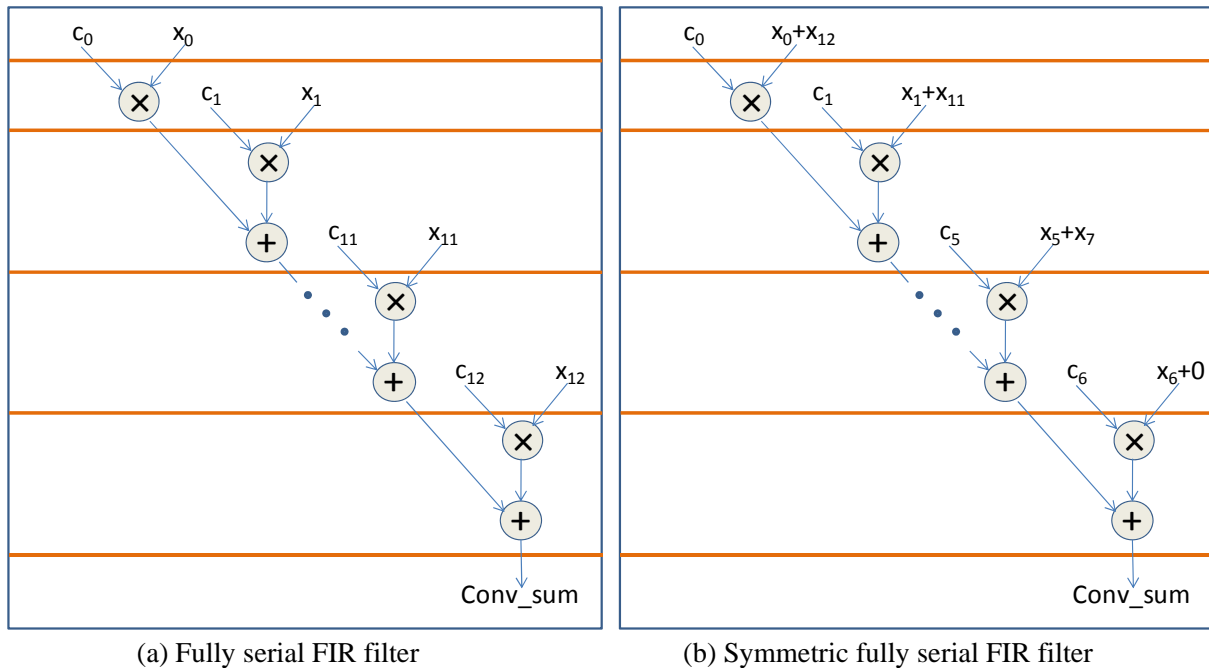

Figure 5. Two different architectures for fully Serial FIR filter
In the IL2225\_LAB/LAB1/SerialFIR folder, the given code implements a fully serial FIR filter (Figure 5.a).
**Question:** How many adders and multipliers are there in the critical path of the FIR filter with the architecture shown in Figure 5.a? \_\_\_\_\_